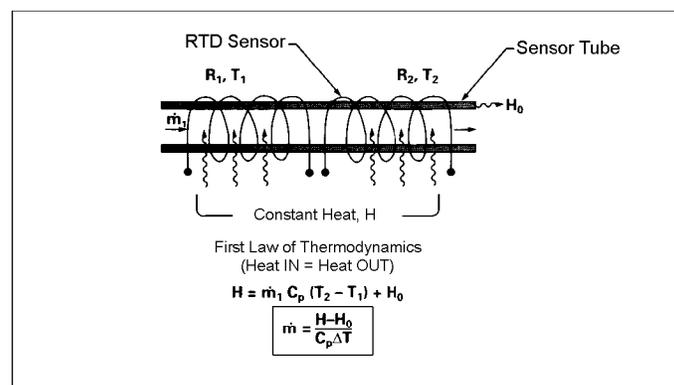

Figure 1-2. Flow Measuring Principle
Figures 1-2 and 1-3 show the mass flow through the sensor tube as inversely proportional to the temperature difference of the coils. The coils are legs of a bridge circuit with an output voltage in direct proportion to the difference in the coils' resistance; the result is the temperature difference (OT). Two other parameters, heat input (H) and coefficient of specific heat (C_p) are both constant. The resulting output is nearly linear over the transducer's normal operating range.